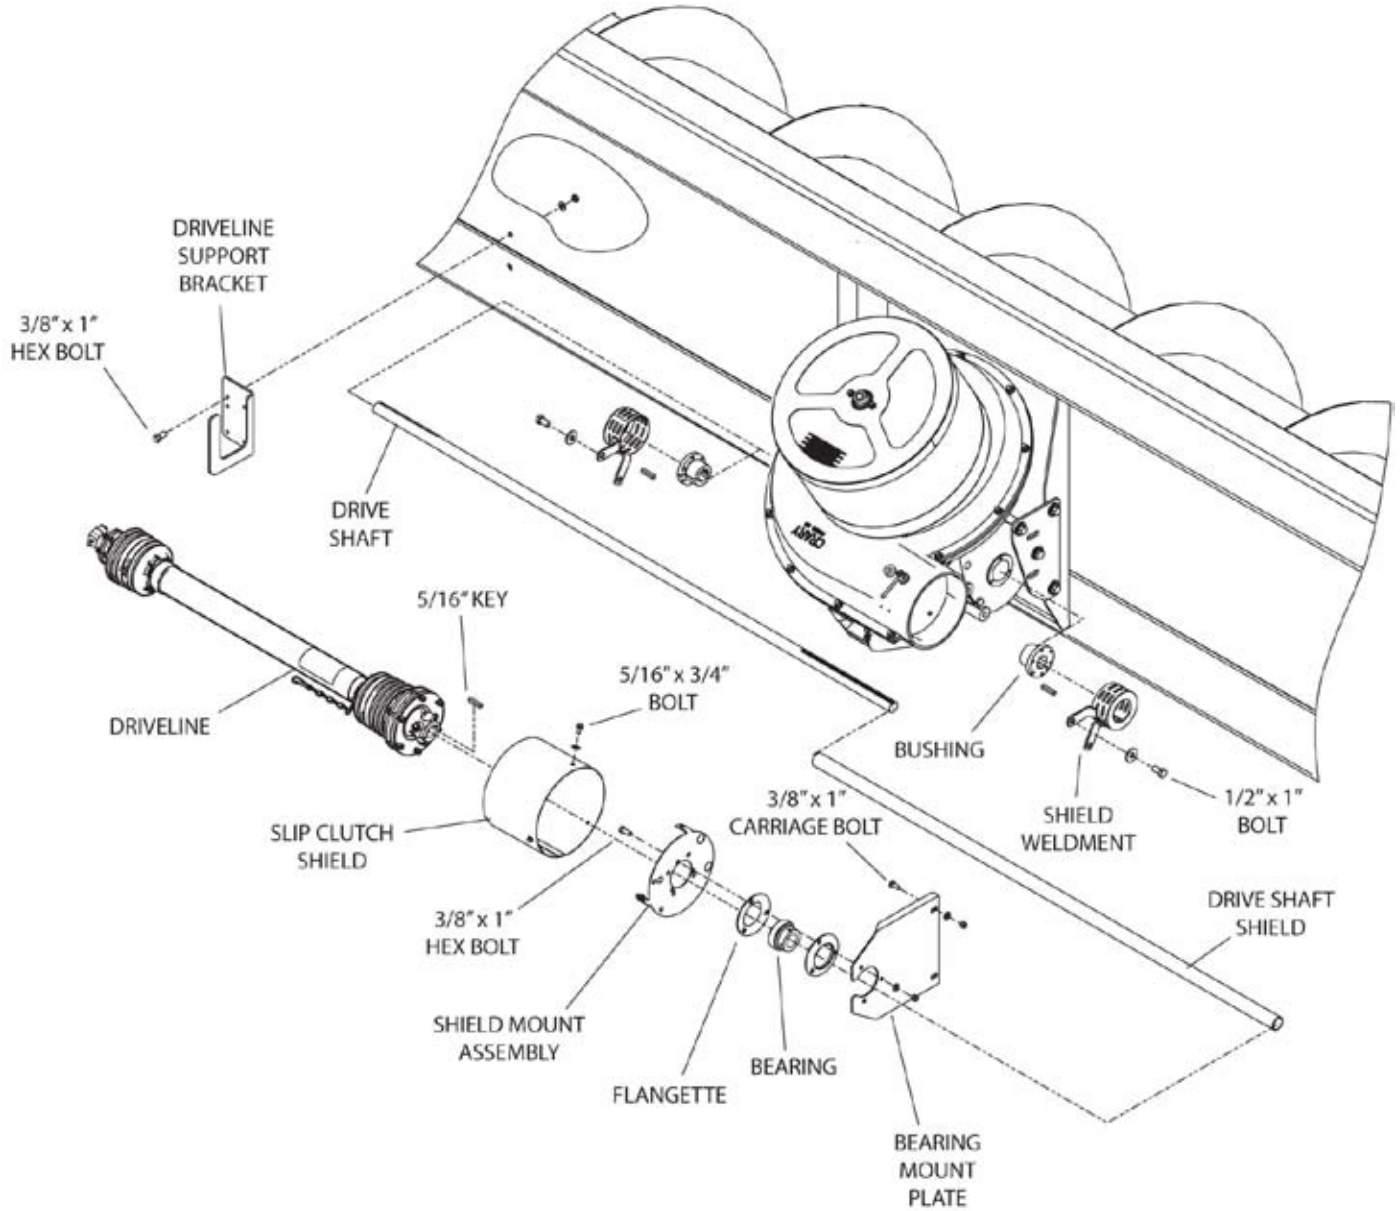

Figure 9, RH drive (25-35 ft. headers)
1. Install a bushing to each side of the gearbox (Figure 9). Make sure the bolts are inserted in the non-threaded bushing holes. The threaded set of holes is used to remove the bushing. Do not tighten the bolts yet.